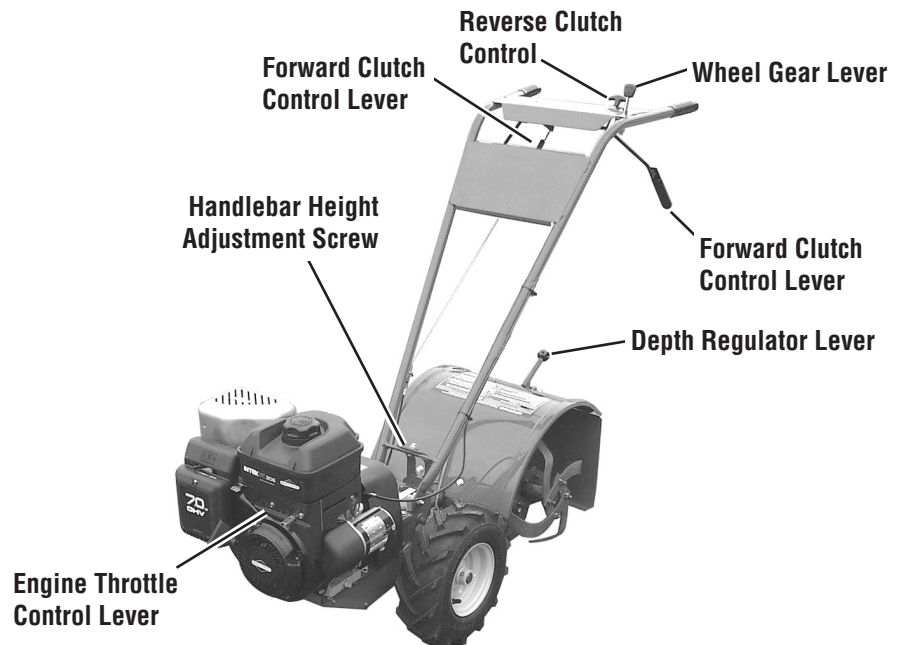

Figure 4-1: Location of main tiller controls.
The Engine Throttle Control Lever (located on engine--see Figure 4-1) is used to regulate the engine speed. On the recoil start model only, it is also used to stop the engine (on the electric start model, the electric start keyswitch is used to stop the engine). The throttle settings are shown below.
2. Put the Wheel Gear Lever (Figure 4-1) in the ENGAGE position.
5. Put the Engine Throttle Control Lever (Figure 4-1) in the “FAST” setting.